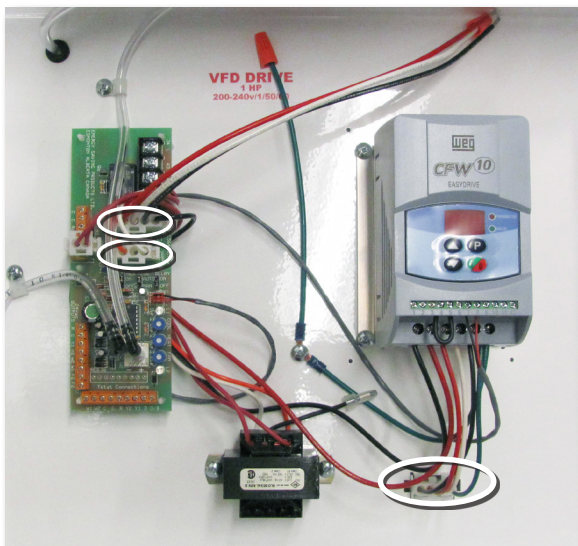

Fig. 13
- 13.** Double check that all wires and wiring harnesses are connected. (Fig. 13)